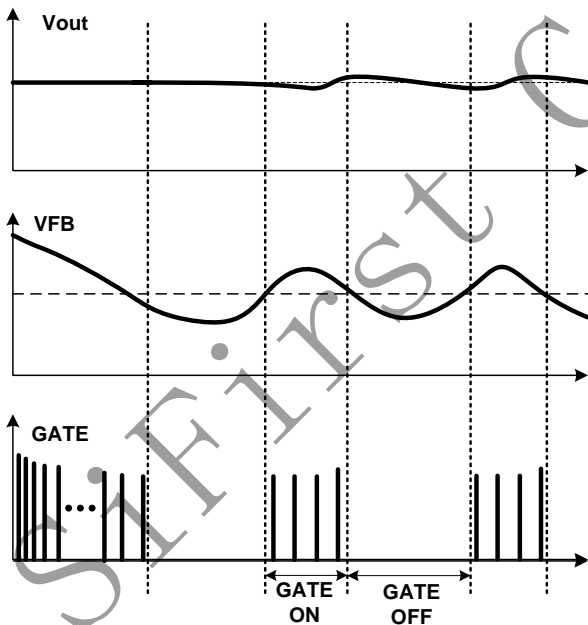

Fig.5
■ When zero or very light load conditions, the IC enters into burst mode. In the burst mode (as illustrated in Fig.5), the valley locking counting number is fixed at 8. In this way, a small standby power can be achieved.
When the loading is very small, the system enters into burst mode. When VFB drops below VFB_min_duty, SF5897 will stop switching and output voltage starts to drop, which causes the VFB to rise, as shown in Fig.5. Once VFB rises above VFB_min_duty, switching resumes. Burst mode control alternately enables and disables switching, thereby reducing switching loss in standby mode.